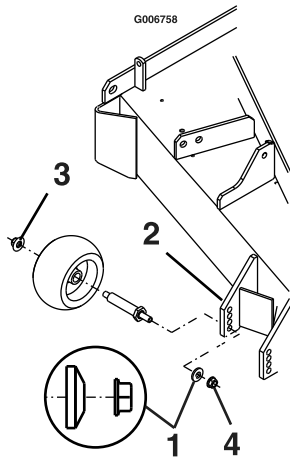

Figure 9
7. Torque the 3/8–16 whizlock nut to 30–35 ft-lb (41–47 N-m) (Figure 9).
8. If the 3/8 nyloc nut has been removed, reinstall and torque to 30–35 ft-lb (41–47 N-m) (Figure 9).